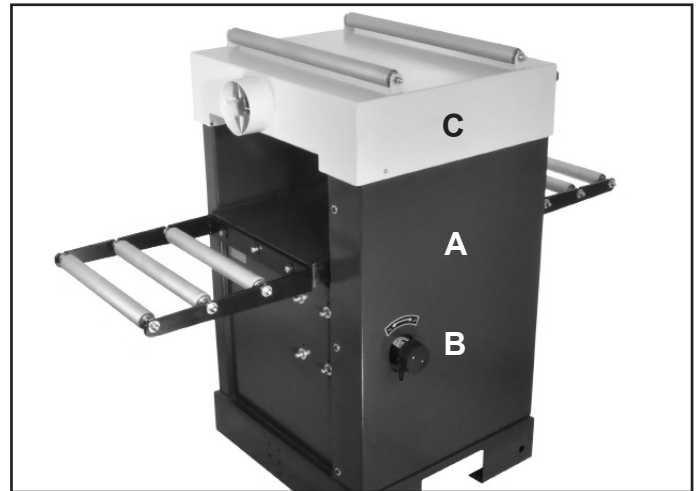

FIG. 21
The cutterhead drive belt and the feed gear drive belt need to be checked periodically and re-tightened if necessary. Belts will stretch with use, especially when they are new and are breaking in. Both drive belts are located behind the machine's side panel. FIG. 21, A & B.
2. Remove the Speed Control Knob (#155, FIG. 21, B)
3. Take off the left side panel (#4, FIG. 21, A) by loosening the six hex head screws (#3) that secure the panel to the cabinet, and also lift up the cutterhead cover (#13) to reveal the motor, pulleys and belts.